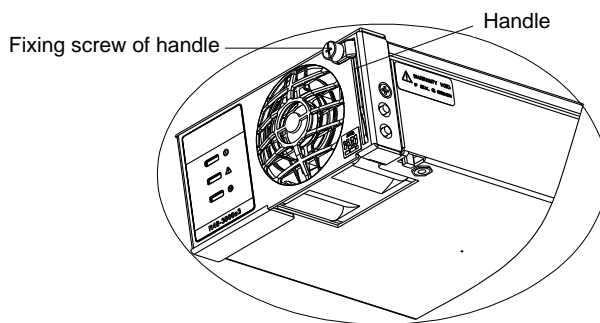

Figure 2-17 Position of rectifier handle
1. Loosen the fixing screw (see Figure 2-17) of rectifier handle, and pull the handle outside.